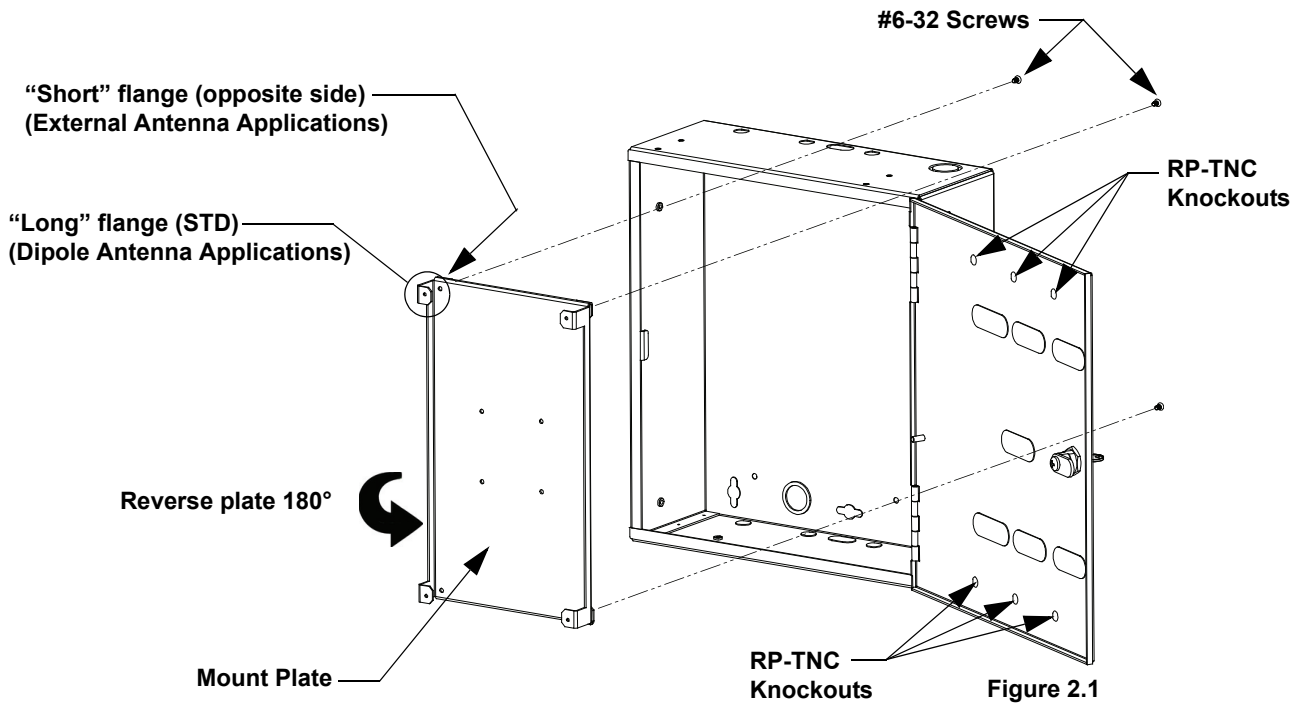

Figure 2.2
- 2.4 Install access point as shown in **Figure 2.2** for in-ceiling mounting.